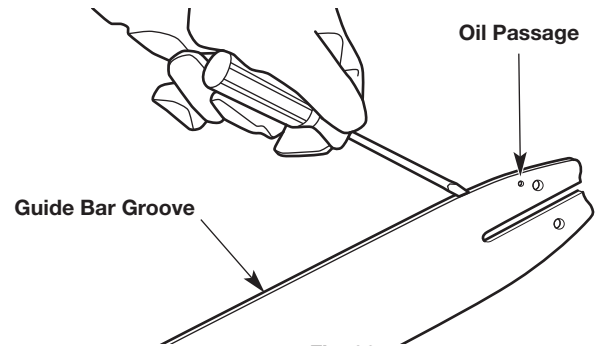
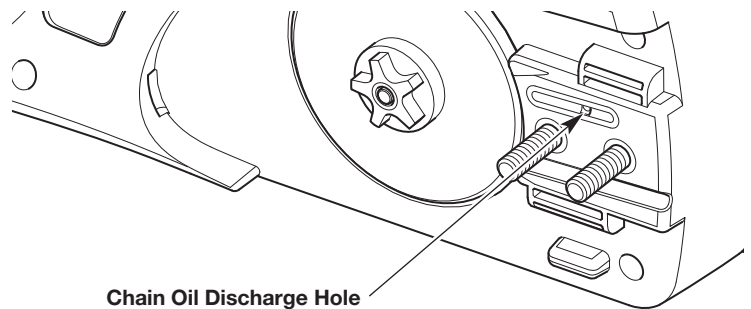

Fig. 36
Fig. 37
- Clean the guide bar groove and oil passages whenever the saw chain is removed, when the unit has been used heavily or when the saw chain appears dirty. Use a screwdriver, putty knife, wire brush or similar instrument to remove debris from the guide bar groove (Fig. 36). Use a small, soft wire to remove any debris from the chain oil discharge hole (Fig. 37).